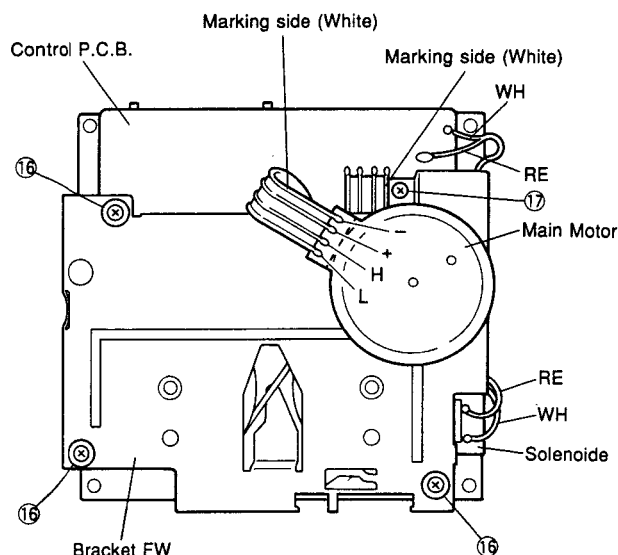

Fig. 8
Remove 3 screws (16) and 1 screw (17) and then remove the Bracket FW with the Main Motor in Fig. 8.